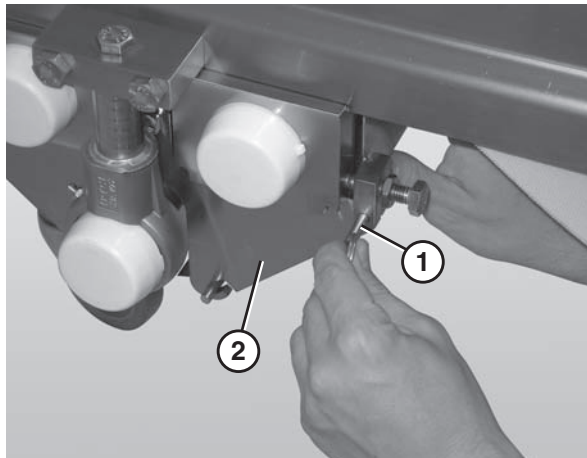

Figure 57
2. Remove the pull pins (Figure 57, item 1) from the center drive side plate (Figure 57, item 2).